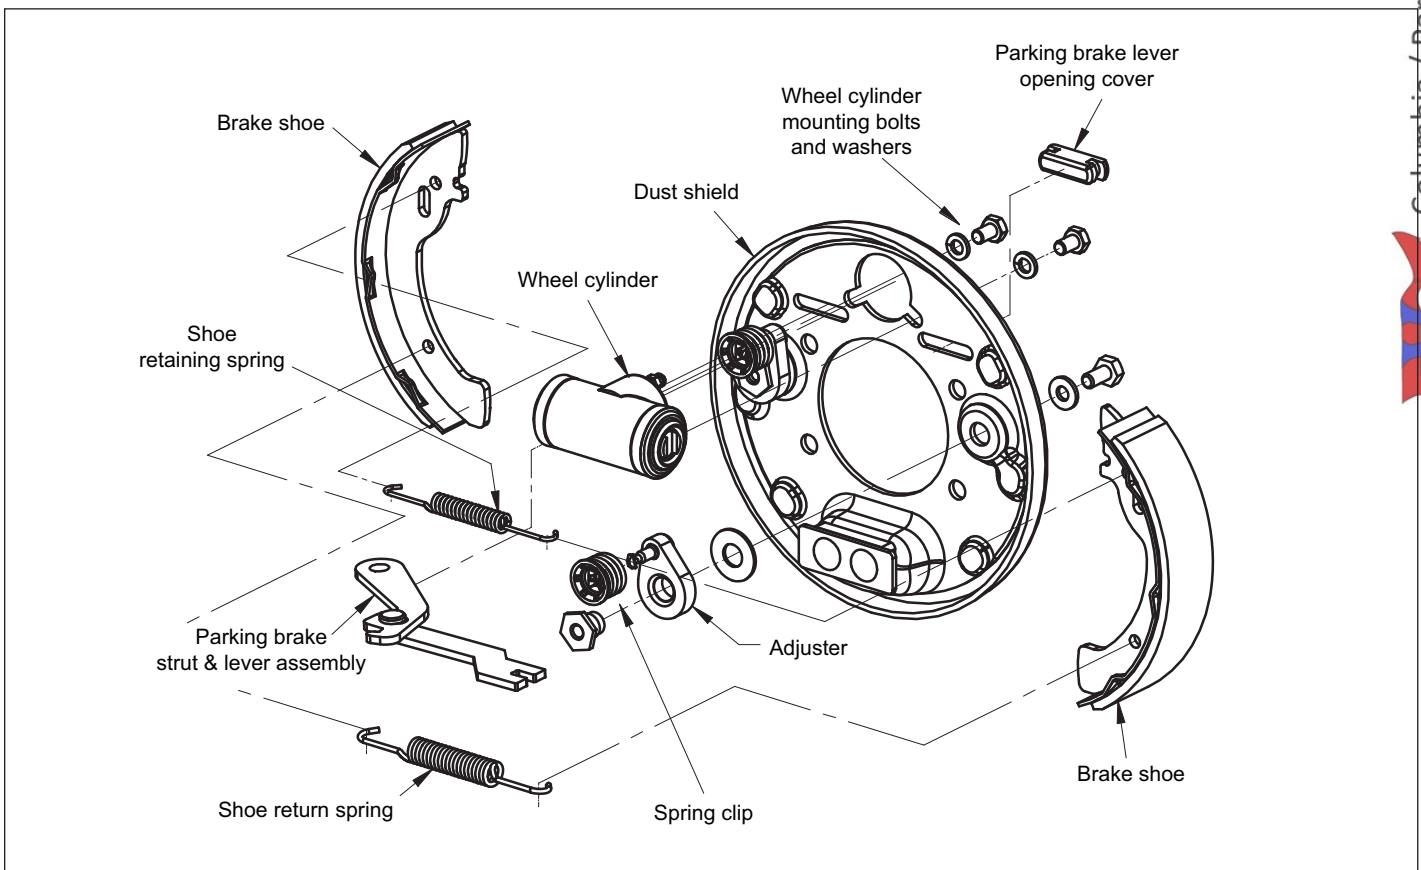

Figure 5-4. Rear Drum Brake Assembly - Dana Spicer Models
2. Remove the two mounting bolts and washers (Figure 5-4) and remove cylinder.